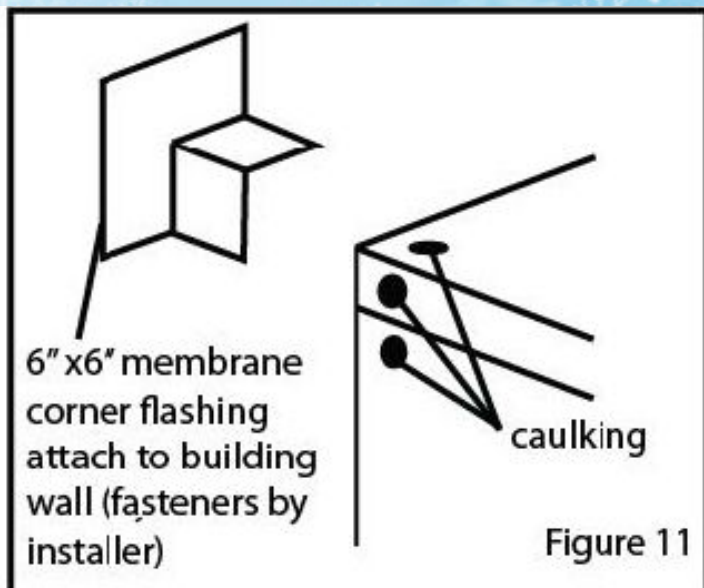

Figure 11
3. Included with the membrane roof will be two outside corner pieces. (See Figure 11) Install these corners before installing your membrane roof. Caulk first. (See Figures 11 and 12)
2. Included with your membrane roof will be two outside corner pieces (See Figure 11) Install these
corners before installing your membrane roof. Caulk first. (See Figures 11 and 12)
3. Included with your membrane roof will be two outside corner pieces (See Figure 11) Install these corners before installing your membrane roof. Caulk first. (See Figures 11 and 12)